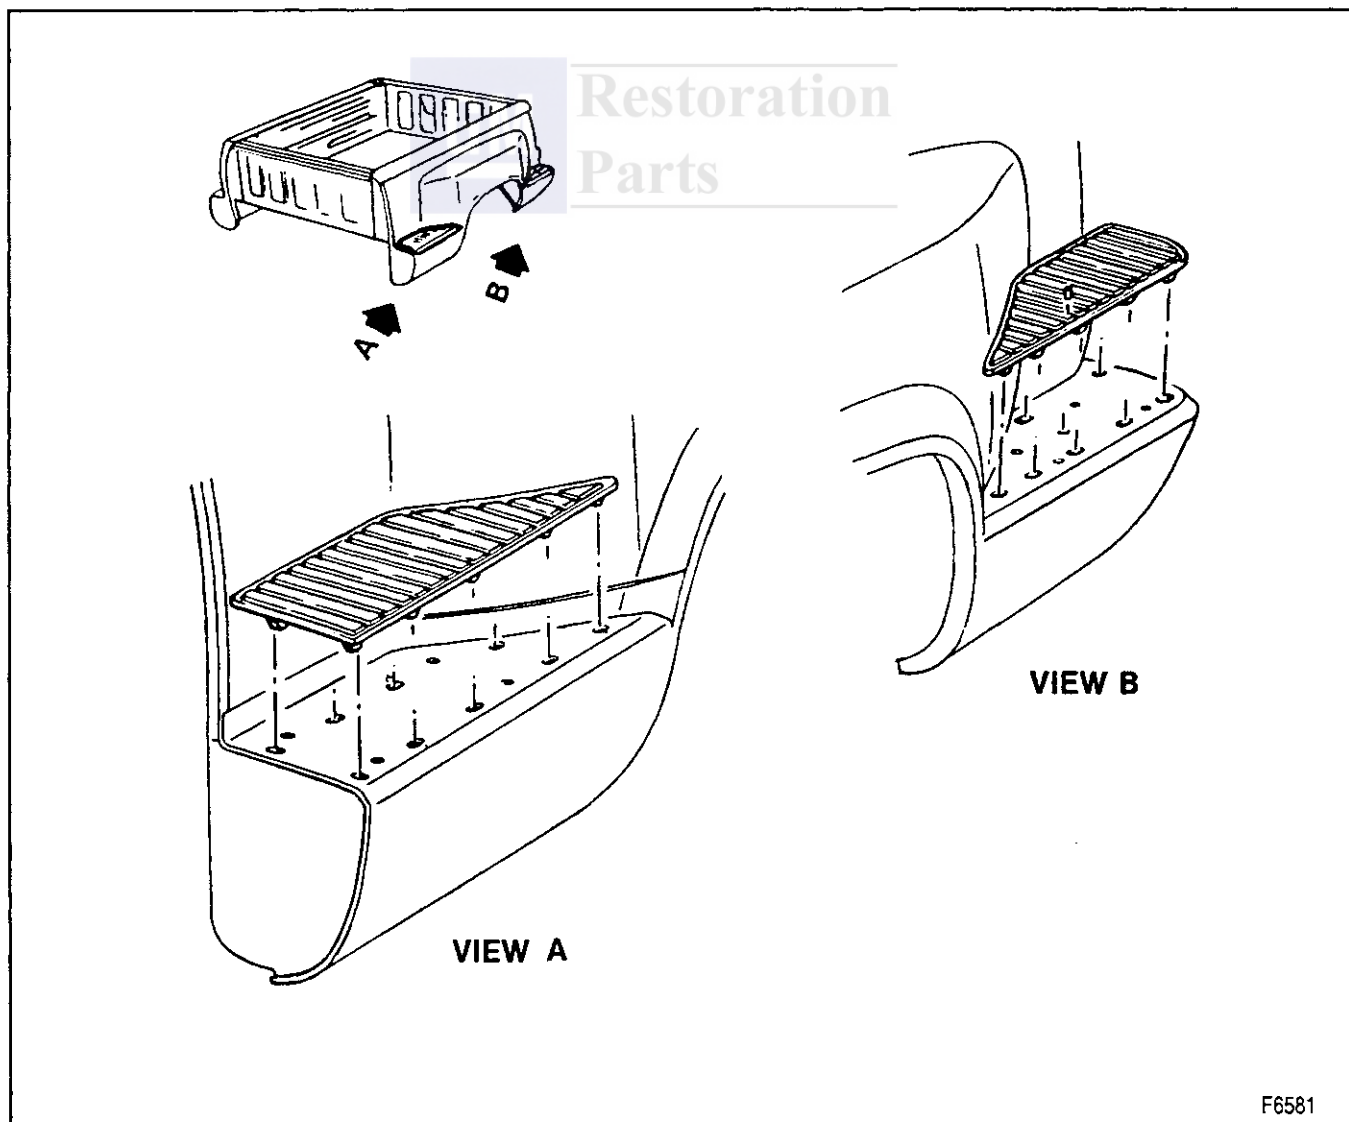

Figure 11—Step Pads
Remove or Disconnect (Figures 11 through 14)
1. Pads from fender steps (figure 11).
Install or Connect (Figures 11 through 14)